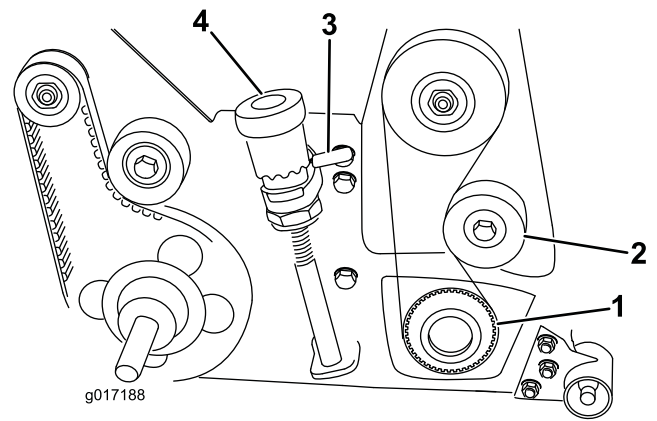

Figure 11
26. Using a 1/2 inch drive ratchet and extension, reinstall drive pulley and belt to reel shaft (Figure 11). Secure the reel from turning with a wood block. Tighten pulley to 40 to 60 ft-lbs (54 to 81 N-m) of torque.
28. Reinstall reel drive cover to side plate with (4) capscrews previously removed.
29. Check the assembly of the groomer. Rotate both quick up levers to raise the grooming reel into the transport position (Figure 11). Correct any problems and recheck the assembly.